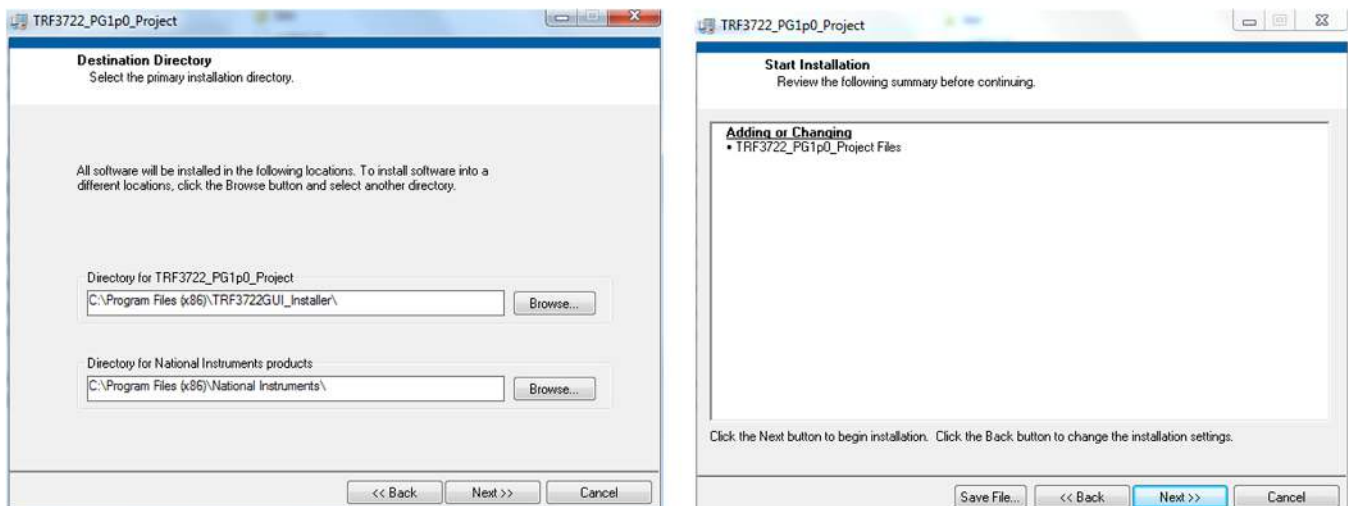

Figure 3. Directory Installation Windows
4. When the destination directory installation windows appear (Figure 3), click the **Next >>** buttons.